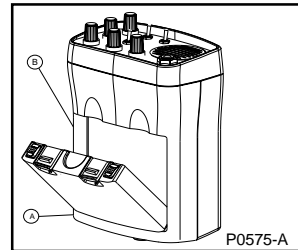

Figure 9 - Installing the battery pack
- b) Place the base of the battery pack at the rear of the battery compartment (A). Push the front edge of the battery pack into position (B). The two battery clips will “click” into position to hold the battery pack in place (see figure 9).
- e) Place the base of the battery pack at the rear of the battery compartment (A). Push the front edge of the battery pack firmly into position (B). The two battery clips will “click” into position to securely hold your battery pack in place (see figure 9).